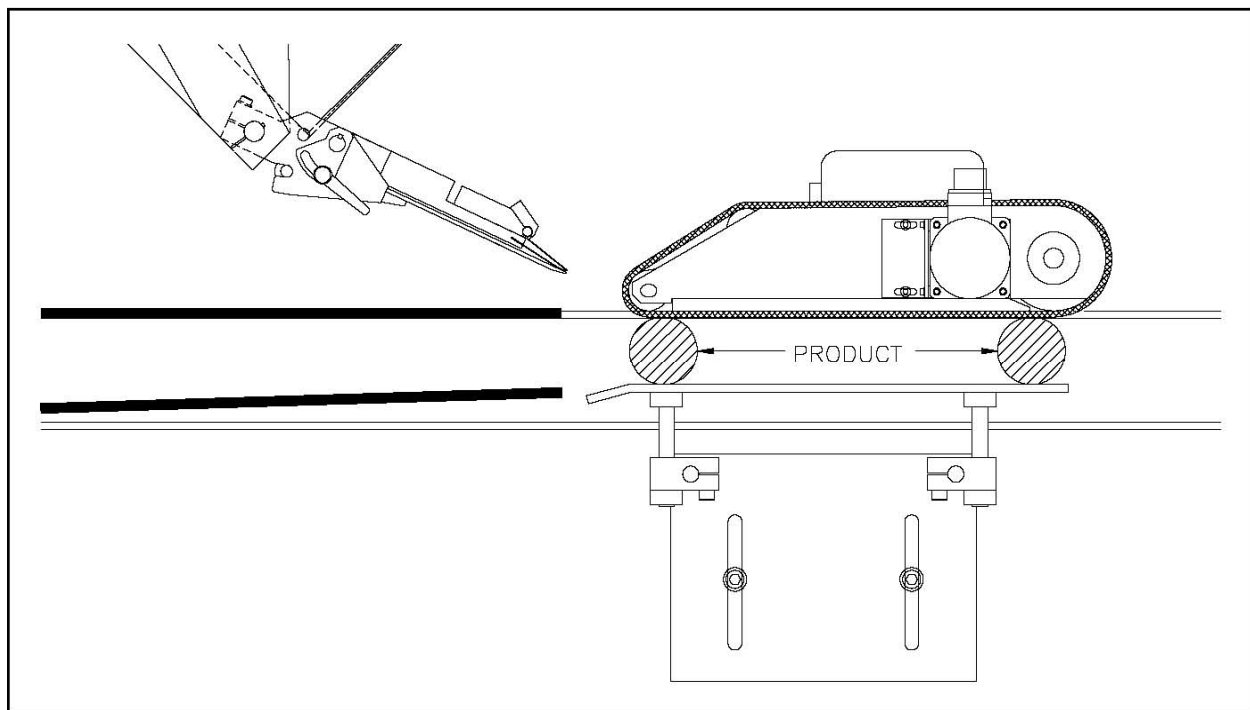

Figure 52 Pressure Bar Position
6. Position the pressure bar $\frac{1}{3}$ to $\frac{1}{2}$ the height of the product. (See Figure 52).
7. Make sure that the pressure bar is parallel with the conveyor chain top from in feed to out feed. See Figure 52.
8. Position the pressure bar against the two products (See Figure 52). Push the pressure bar against the products to collapse the pressure springs slightly and evenly. Tighten the pressure bar assembly in place. Remove the products.